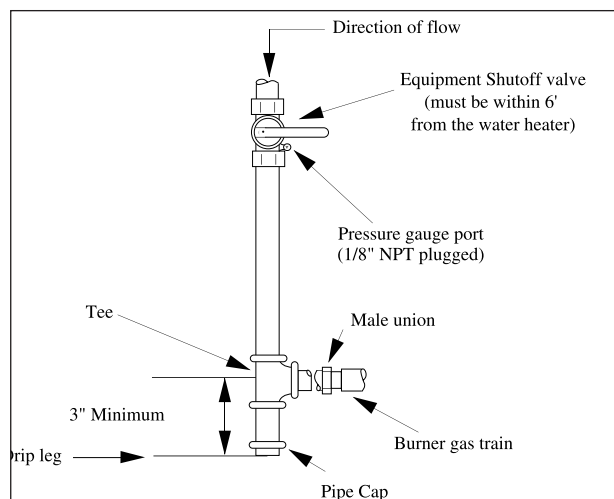

Fig. 15: Recommended Gas Supply Piping
1. Remove the burner jacket hood. Refer to Fig. 15 to pipe gas supply to the burner.
- b. Install a manual shutoff valve in the gas supply piping as shown in Fig. 15. For installations in Canada the installer must tag and identify the main shutoff valve.
- c. Install a drip leg on the gas supply line prior to connecting to the ELITE gas train as shown in Fig. 15.